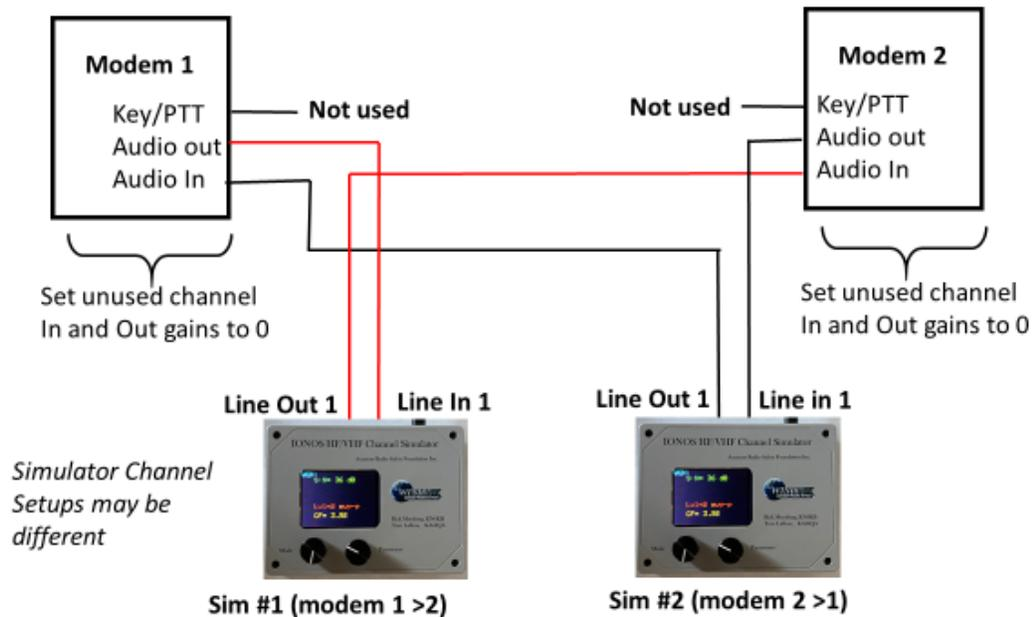

Fig8. Full Duplex, non-symmetric channel setup using two IONOS SIMs
3.2 Getting Familiar with the controls and displays of IONOS SIM. You can gain familiarity with the simulator without hooking it up to any modems or TNCs. An earphone (mono or stereo) plugged into the Ch1,2 output jack will be helpful. Upon power-up after plugging in to a +5 v powered micro USB port the TFT display will Activate and show IONOS SIM version xxxxx for four seconds along with an 8 digit hex serial number before going to the **Basic Mode** display. There it will show the current mode “WGN:” in blue text and the current parameter value for that mode which will be “S:N= 40 dB” in green text. Also shown in the WGN mode is the internal signal level (mv p-p) and the Crest Factor (CR) of the input. WGN (White Gaussian Noise) is the most basic mode and one that will be used often for setup and initial testing runs. Rotate the right hand encoder (parameter) CW or CCW to roll through the S:N options (-40 to +40 dB). The display of mode settings/parameters and text colors are similar for the 14 other modes shown in Fig 8. (The self-test modes TEST3K and TEST6K are shown in magenta to distinguish them from normal operating modes) Most modes and settings can be left at their power on defaults for basic testing. For modes WGN-MPD pushing down on the right encoder until it clicks will toggle the internal 1500 Hz test tone on/off. You should hear the tone in the earphone and see the simulator’s internal p-p level in mv shown on the screen. Adjusting the S:N lower should increase the noise. Most people can still hear the signal down to about -10 to -15 dB below the noise (all dB measurements and calculation are based on the operational bandwidth (3000/6000 Hz). In other modes pushing down on the right encoder will save the current mode parameter to EEPROM as the power on default value. For modes WGN-MPD pushing on the left encoder knob should switch the display to the **Spectrum** mode (3.5 or 6.5 KHz). There you should see the test tone and the background noise (white noise filtered to bandwidth) displayed. The vertical plotting scale of the spectrum analyzer is logarithmic and covers approx. 60 dB dynamic range. Each spectrum line (2 pixels wide for 0